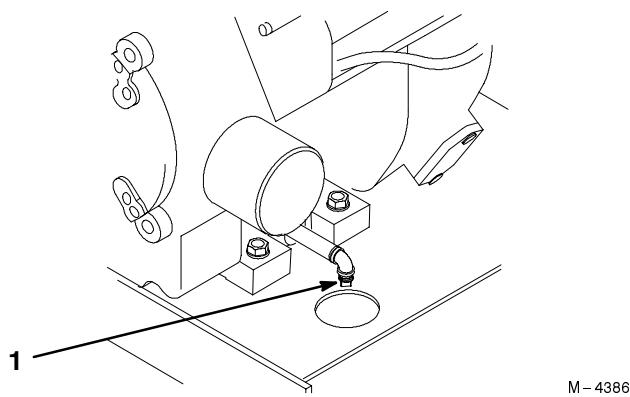

Figure 28
3. Place a pan below the oil drain. Remove the oil drain plug (Fig. 28).